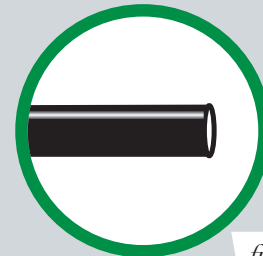

fig. D.1
When cutting air lines, use a sharp knife or a hose cutter and make clean, square cuts (Fig. D.1). Do not use scissors or wire cutters because these tools will deform the air line, causing it to leak around fittings. Do not cut the lines at an angle.
1. If there is a problem with the push-to-connect fitting, remove the air line as described above. Trim 1" off the end of the air line. Be sure the cut is clean and square (see Fig. D.1).